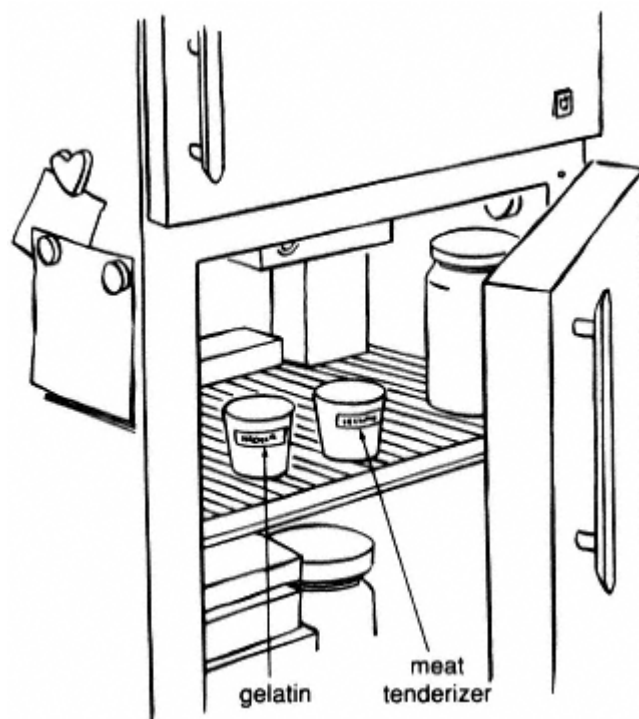

Figure 9.1
8. Place the labeled cups in the refrigerator overnight (see Figure 9.1).